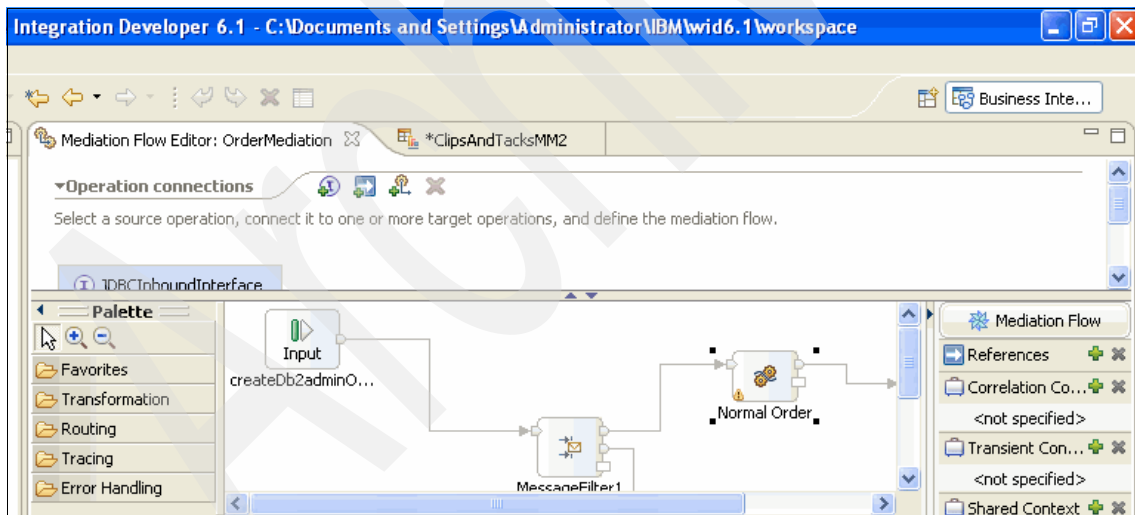

Figure 6-93 Output Terminal message type
3. To remove the warnings, select the **Normal Order** custom mediation primitive (Figure 6-93). In the Properties view, click the **Terminal** subtab and select **Output terminal** → **out**.